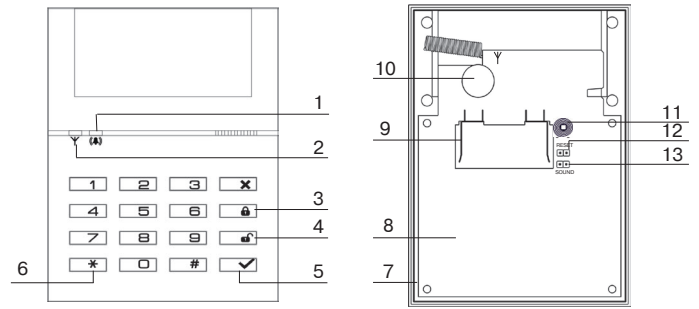

Figure 1
PUV-RK comprises the following components (see Figure 1): case (7) with the installed printed circuit board (PCB) (8). Power supply battery should be installed to the holder (9).
Sound indication is switched on/off by installing/removing a jumper on the back side of the PUV-RK (Fig. 1, (13)).
Install power supply battery to the holder. Prepare the CP for the Detector logging in accordance to the CP Installation Guide. Service LED indicator (Fig. 1, (1)) periodical blinking green means that the PUV-RK is being in process of binding. In case of service LED indication absence, close the «Reset» contacts (12) at PUV-RK backside for a moment. The time during which the PUV-RK operates in the «Binding» mode is limited to 100 sec. After it expires, the PUV-RK state changes to the sleep mode. To restore the «Binding» mode, the «Reset» (12) contacts must be closed for a moment.